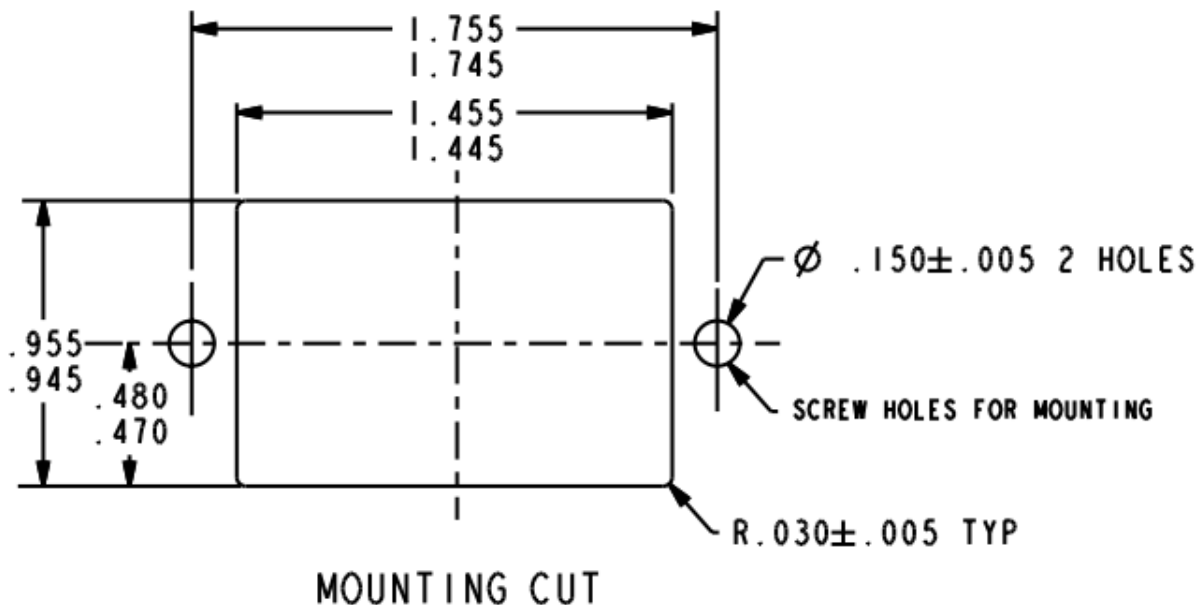

Figure 1 – Mounting Hole
| Figure 1 – Mounting Hole..... | 6 |
2. Cut panel for Second Hour Meter in accordance with Figure 1. Install the Second Hour Meter (P/N: LH-HH3AS-H21) into the mounting hole.